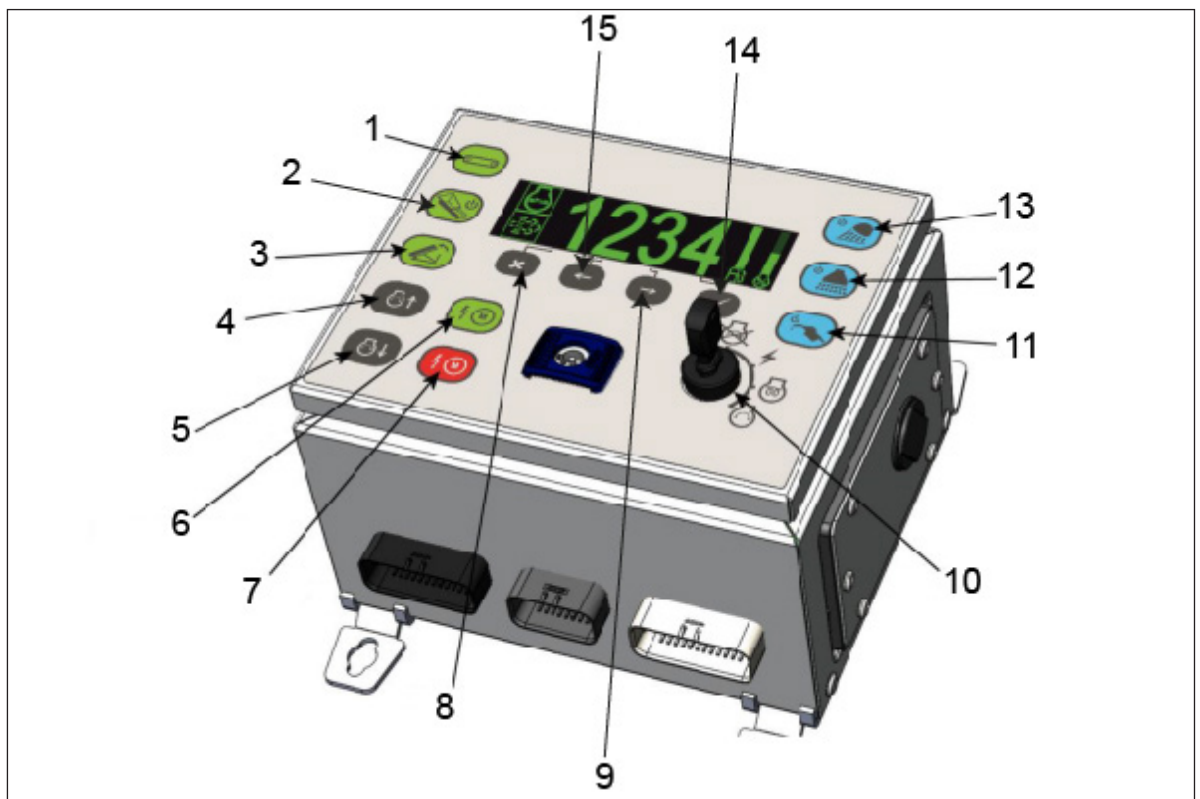

Figure 4.1 - Control Panel
(3) Panel Display Menu
Using the left and right menu buttons (items 8 in Figure 4.1) will cycle through the available menu options on the LCD display, once the desired menu icon is highlighted in the green bar press the tick button to select it and display the details of the selected item, see Table 4.1.